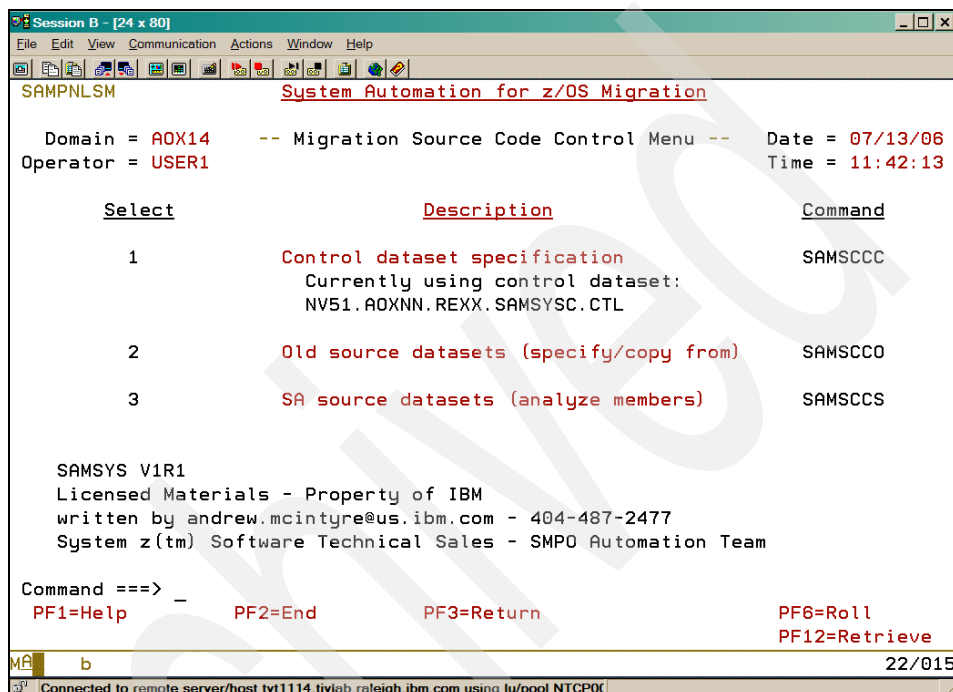

Figure 6-6 Migration Source Code Control Menu screen with control dataset
Be aware that you can specify and switch between any number of control datasets. The tool stores this dataset name in a global variable in the NetView save/restore database. When you have successfully created a control dataset, the initial sub menu for this tool will show the dataset name currently being used, as in the screen shown in Figure 6-6.
5. Back on the sub menu screen in Figure 6-6 on page 142, key in 2 or use the SAMSCCO command to specify the old source datasets that contain your various REXX members. You will see the screen shown in Figure 6-7.